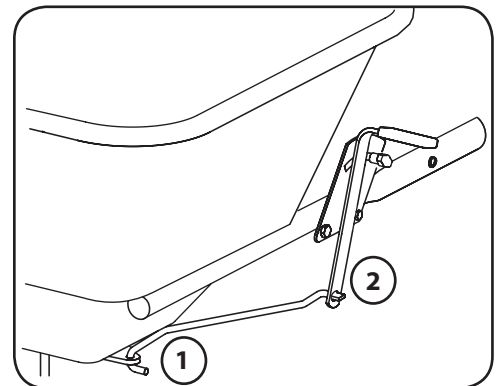

Figure 1-10
- Insert the control rod (hook side) into the restrictor plate (preattached beneath the hopper) from the top down. See 1 in Figure 1-10.
- Insert the flattened (90° angle side) of the control rod into the control handle. See Figure 1-10